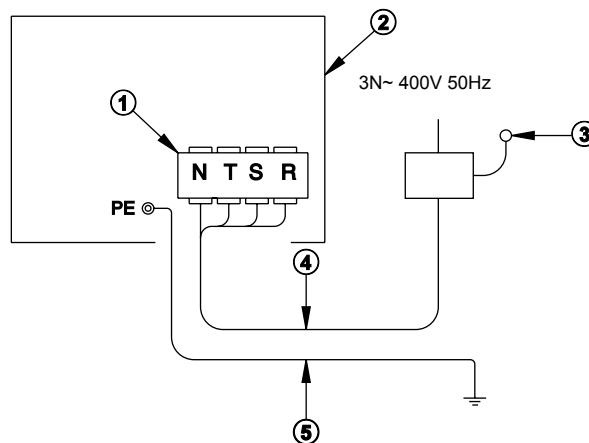

Fig.6. Main Power Wiring.
4. Firmly connect the wires with wire terminals to unit screw terminals R, S, T and N according to Fig. 6.